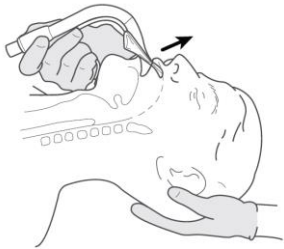

Figure 7: Press the tip of the mask against the hard palate
3. Press the distal tip against the inner aspect of the upper teeth or gums. (Fig. 7)